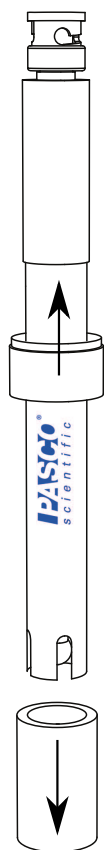

Figure 2.
3. Push the bottle cap and the rubber washer up the pH probe shaft to keep them out of the way (Figure 2).